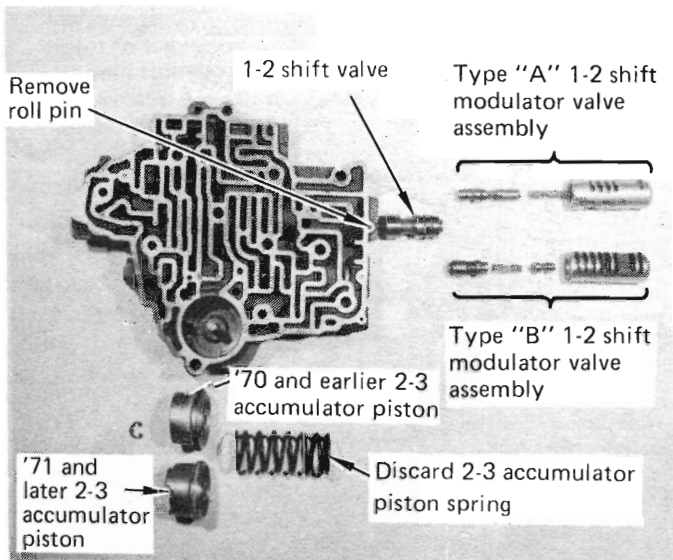

FIGURE 30
STEP 1. Place the valve body on the bench with the channel side up. Remove the roll pin holding the 1-2 shift modulator valve sleeve in place. (See Fig. 30) Remove the sleeve carefully. This may require a little prying with a small screwdriver. Try not to raise any burrs during removal. Also remove the 1-2 shift valve at the bottom of the bore.
Install the 1-2 shift valve into the bore with the smallest diameter pointing out. (See fig. 30) Reinstall the 1-2 shift
STEP 2. Very carefully clamp the valve body in a vise with smooth jaws and compress the accumulator enough to remove the E-clip with a screwdriver. (See Fig. 32) Open the vise slowly and remove the valve body. Remove and discard the accumulator spring underneath the piston. Install the piston as removed. (See Fig. 30) Install the E-clip.